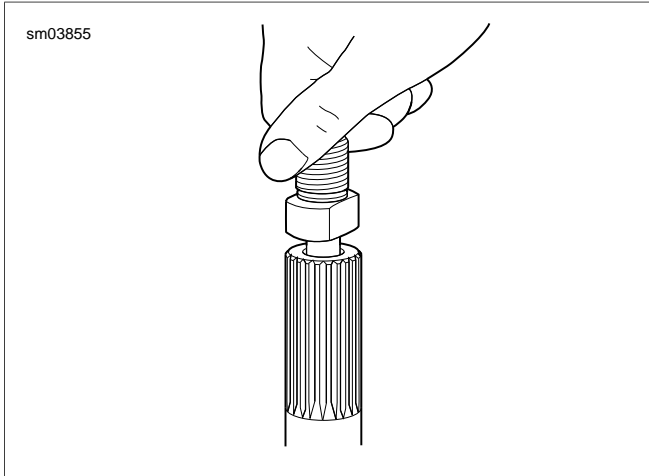

Figure 3-135. Thread Pilot Adapter into Sprocket Shaft
- See Figure 3-135. Thread pilot adapter into sprocket shaft.